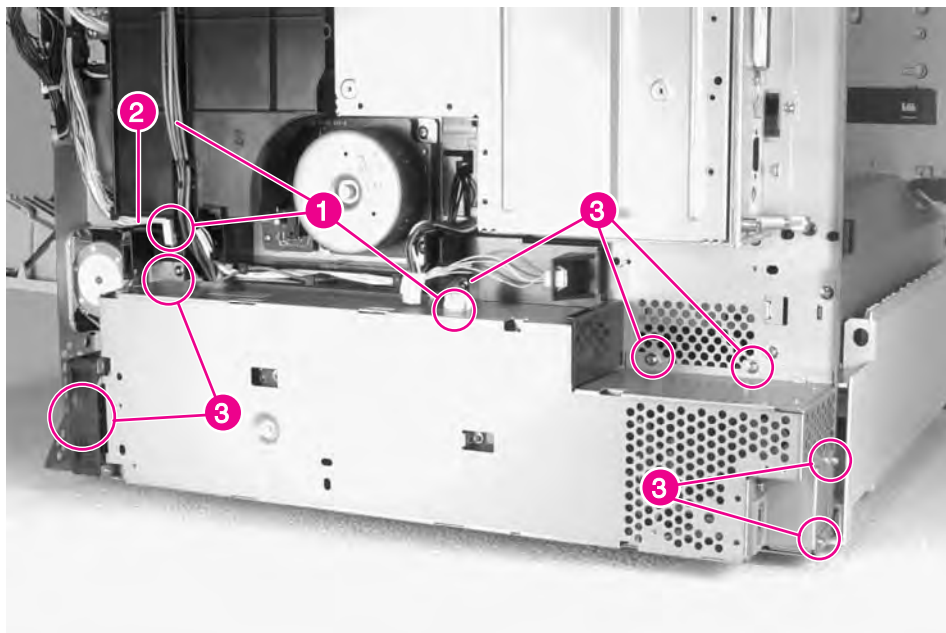

Figure 6-50 Low Voltage Power Supply
- Low Voltage Power Supply (LVPS) (see figure 6-50)
- 4 Unplug 3 LVPS connectors (figure 6-50, callout 1).
- 5 Unplug the LVPS fan (FM1) cable from the DC Controller (figure 6-50, callout 2).
- 6 Remove 7 screws (figure 6-50, callout 3).